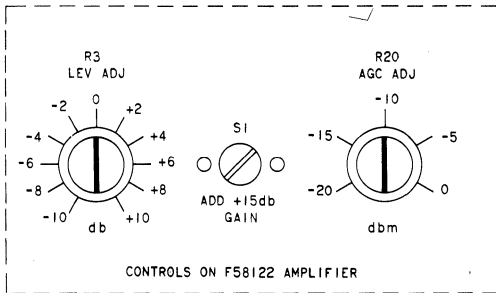

Fig. 9—Adjustment Controls on F58122 Automatic Gain Control Amplifier
- 7.02 Adjustments:** Gain adjustments are made by means of the LEV ADJ control (R3) and switches S1 (Fig. 9). The combined setting of these two controls provides a range of –10 to +25 dB
- (j) Use the preceding method and refer to Fig. 9 to adjust the AGC amplifier for other TLPs.